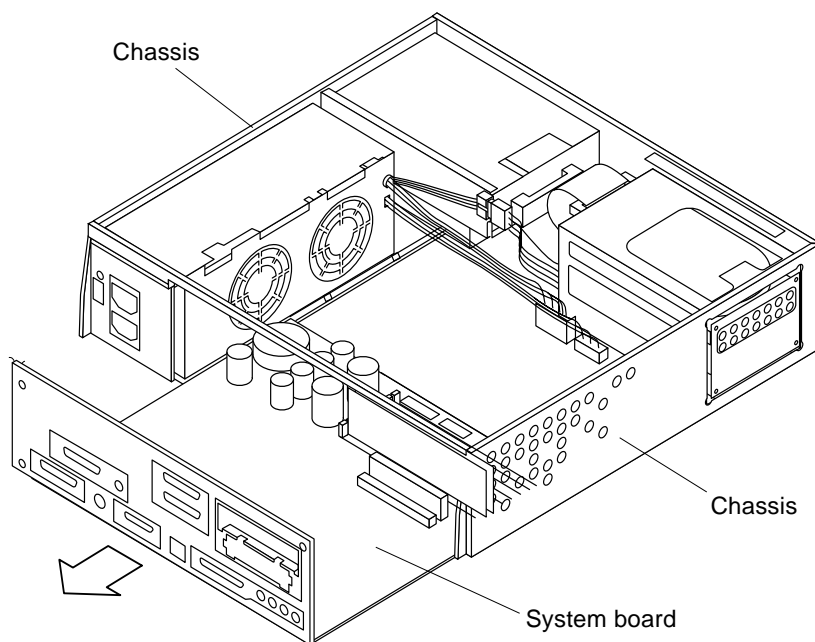

FIGURE 10-3 Sliding the System Board Out of the Chassis
8. Grasp the system board and slide it out of the chassis (FIGURE 10-3).